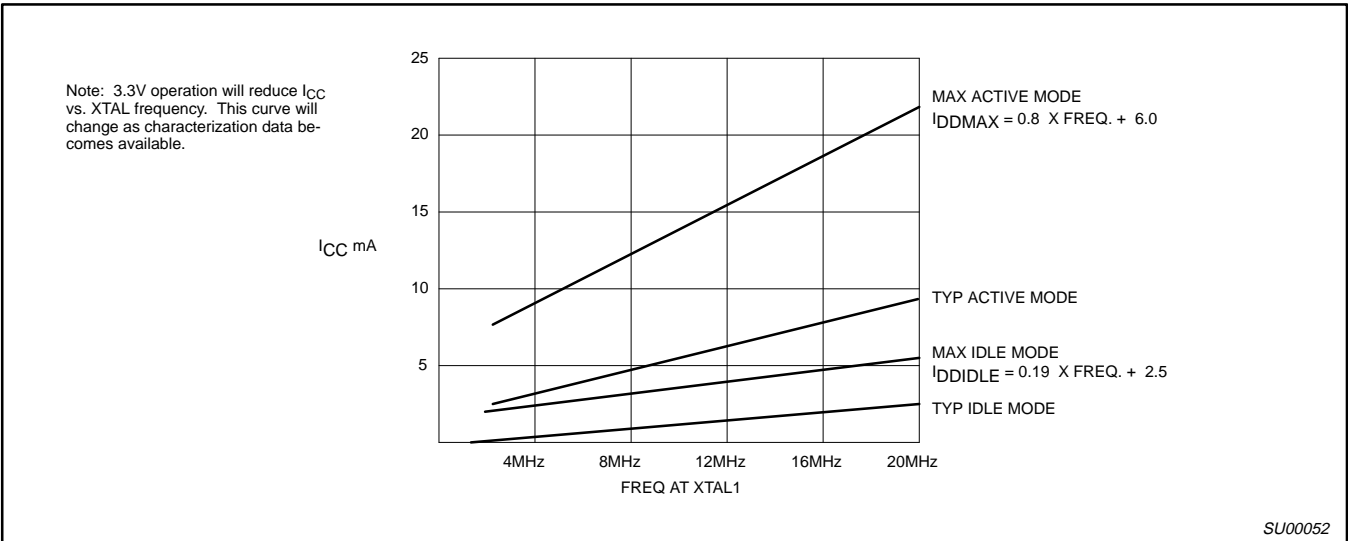

Figure 8. I_{CC} vs. FREQ Valid only within frequency specifications of the device under test
- I_{CCMAX} at other frequencies is given by: Active mode: $I_{CCMAX} = 0.8 \times \text{FREQ} + 6$; Idle mode: $I_{CCMAX} = 0.19 \times \text{FREQ} + 2.50$, where FREQ is the external oscillator frequency in MHz. I_{CCMAX} is given in mA. See Figure 8.